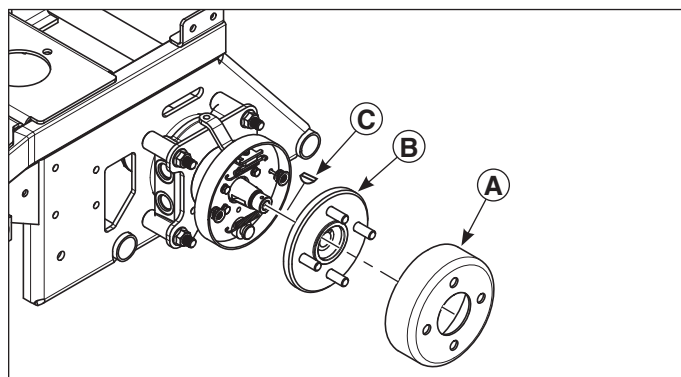

Figure 3. Remove the Brake Drum and Wheel Hub
7. Remove the brake drum (A, Figure 3) and the wheel hub (B).